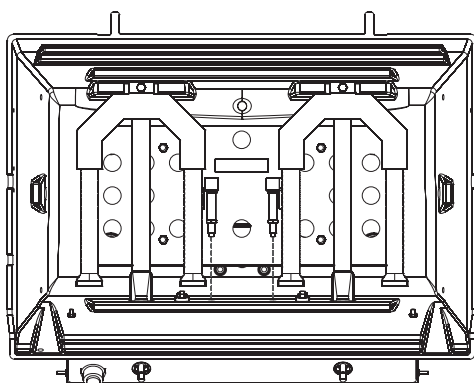

Figure 6
5. Insert collector box assemblies into holes adjacent to burners. The opening of the collector box should be facing the burner. See Figure 6.